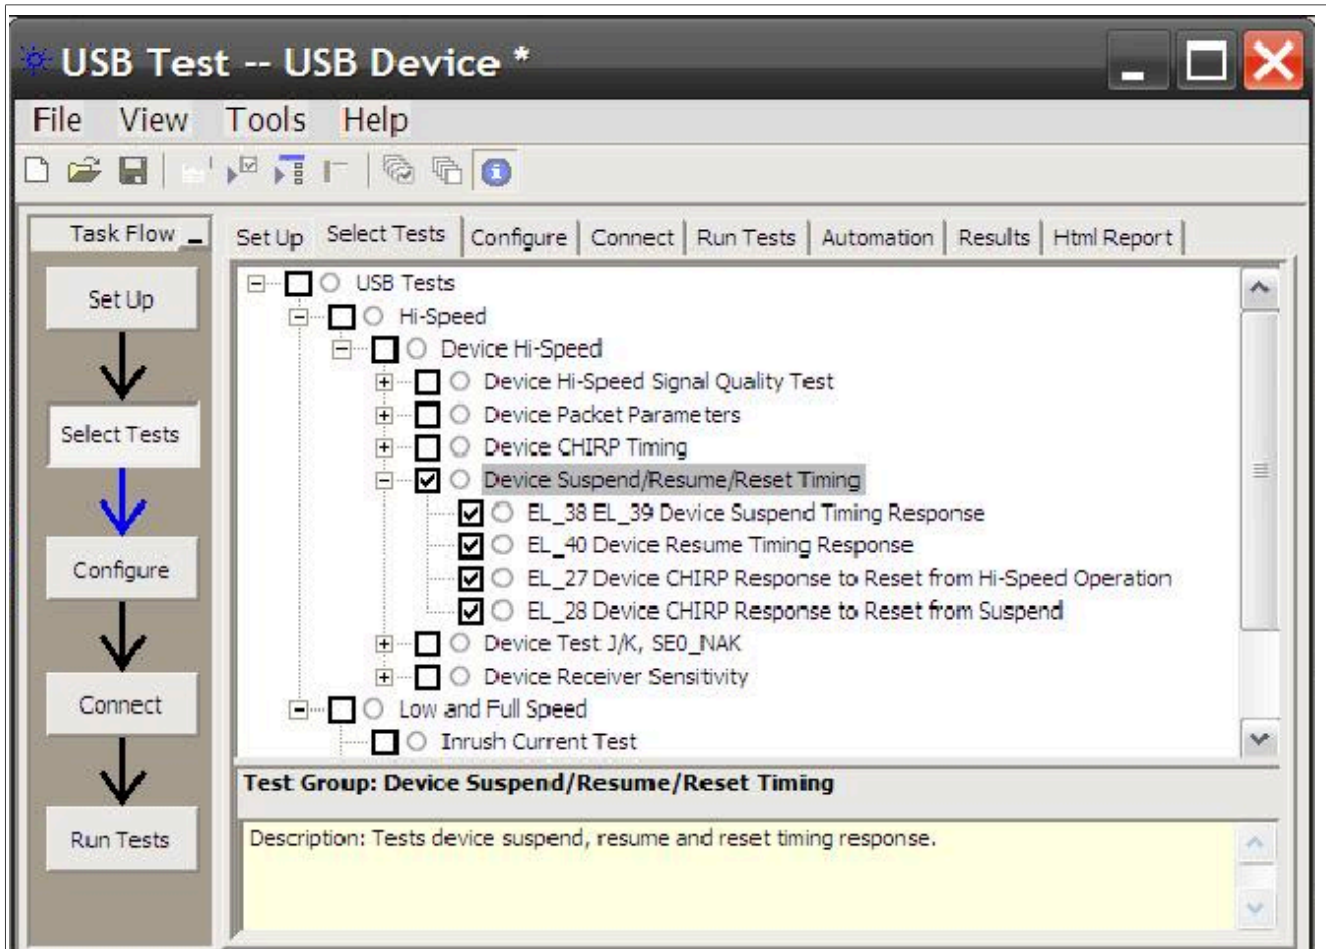

Figure 44. Device Suspend/Reset/Resume Timing Test
1. Select the test items in the USB Automated Test Software on Oscilloscope as shown in Figure 44 below, and make sure you set the Test Type configuration option to “Hi-Speed Near End” before running the test.